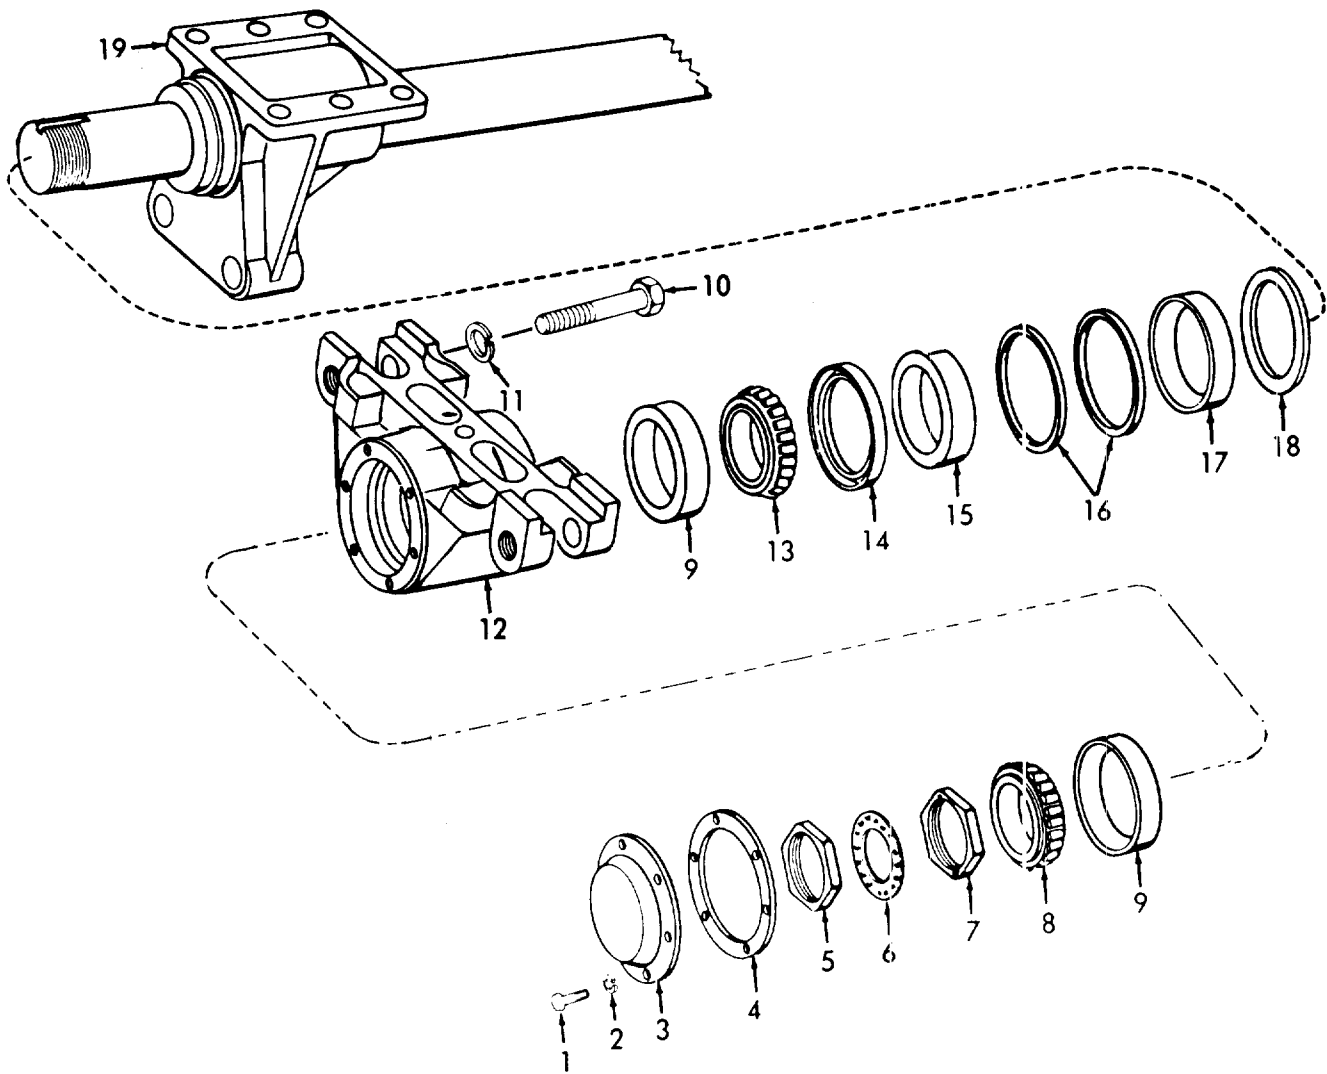

Figure 19-10. Pivot Axle.
- (1) Clean all metal parts with an approved cleaning solvent and dry thoroughly. Wipe the rubber bushings with a clean, dry cloth.
- (2) Inspect all metal parts for breaks, bends, cracks, damaged threads, or other damage. Replace all damaged parts. Inspect the rubber bushings for breaks, tears, or deterioration, and replace if necessary.
a. Disassembly. Disassemble the pivot axle as shown in figure 19-10,
- (1) Clean parts with approved cleaning solvent and dry thoroughly.
- (2) Check bearings, seats, and oil seals for damage.
- (3) Check axle spindle for straightness, cross threads, or damage.
- (4) Replace all worn or damaged parts,
LEGEND FOR FIGURE 19-10:
- (1) Install in reverse order of a. above.
- (2) Use wrench (NSN 5120-00-795-0059) to tighten adjusting nut (7, figure 19-10) sufficiently to force roller bearing cones (8 and 13) into place and then back off nut until seat (12) can be turned freely by hand, but without lateral movement of seat due to oil and lubricant in bearing cones.
- (3) Install washer (6) so that the pin on the adjusting nut (7) protrudes through the washer (6) to hold the adjusting nut (7) in place. The adjusting nut (7) may have to be turned to align the pin on the adjusting nut (7) with the nearest hole on the washer.
- (4) Add 16-ounce GAA grease (GAA 9150-00-190-0904) into spring seat assembly.